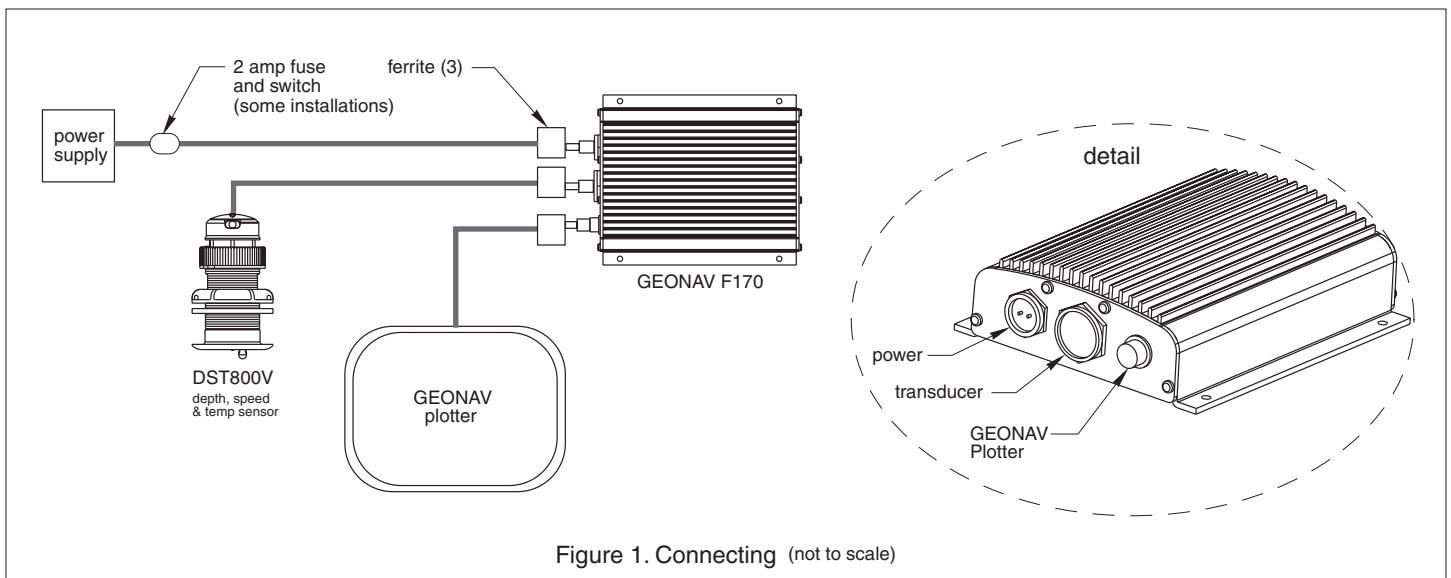

Figure 1. Connecting (not to scale)
Connecting (see Figure 1)
4. Plug both the GEONAV plotter and transducer cables into their designated connectors on the fishfinder (see Figure 1). *Lastly, plug the power cable into the fishfinder.*